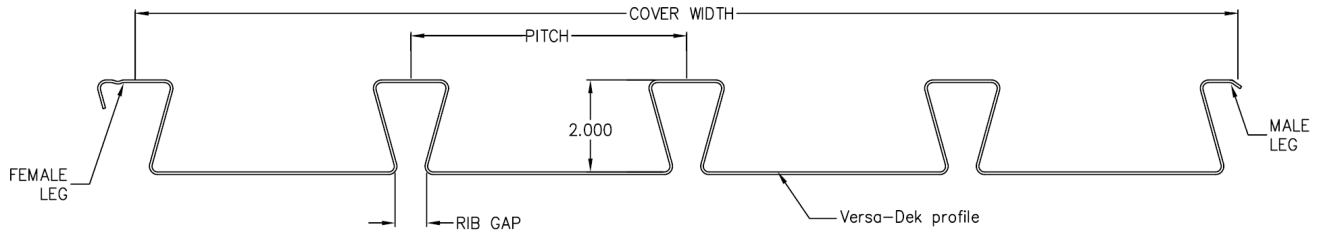

Figure 1: Soffit Panel Geometry
4. Figure 1 – **Soffit-Dek™** - Profile geometry
- Figure 1 – **Soffit-Dek™** - Profile geometry